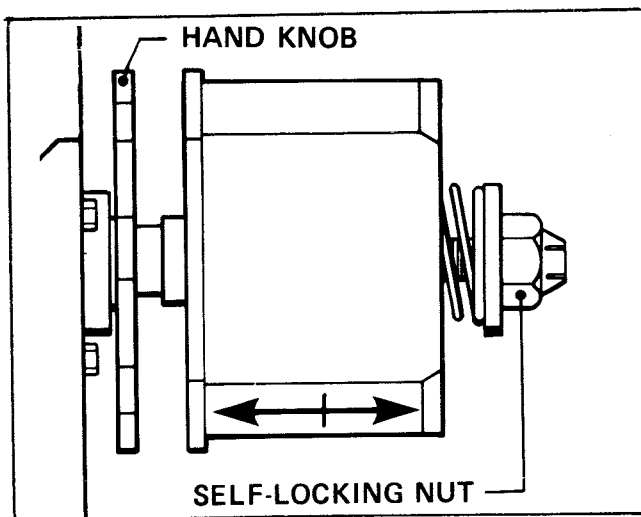

FIGURE 14
- 1) FRICTION BRAKE - Refer to Figure 14.
- a) Loosen jam nut or hand knob (figure 14) behind tape drum on tape drum shaft.
BLADE REPLACEMENT: Refer to yellow pages, Parts Illustrations, figure 14.
- 2) Position the new blade with the beveled side AWAY FROM the blade holder as shown in figure 14. Tighten the blade screws (with one washer next to the screw head as shown).